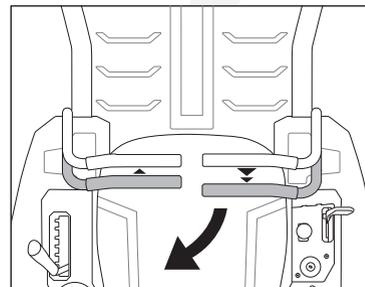

Fig.18A
1. To turn to the right while traveling in reverse, move the left drive control lever forward of the right drive control lever. (Fig.18A)